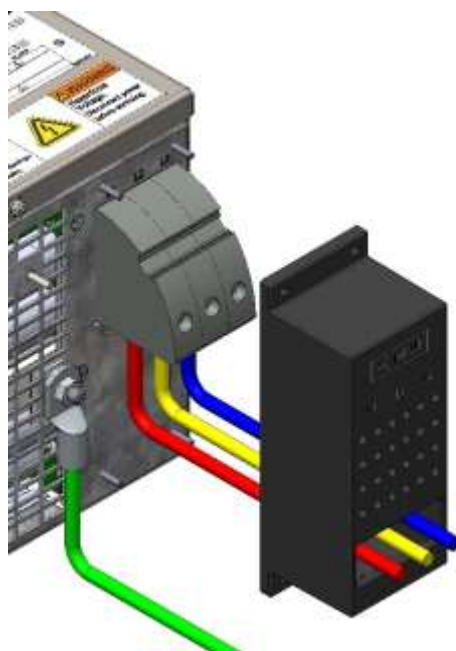

**Figure 3-9. AC Input Connection**
- d) Insert the AC source connection wires through the safety cover (P/N: 9580336-01R). Refer to Figure 3-9.
- e) Connect the utility AC source wires to the rear panel AC input connector terminals L1, L2, L3. Refer to Figure 3-9.
- g) Connect a ground wire from the rear panel chassis ground stud to the utility power distribution earth protection ground. Refer to Figure 3-9.